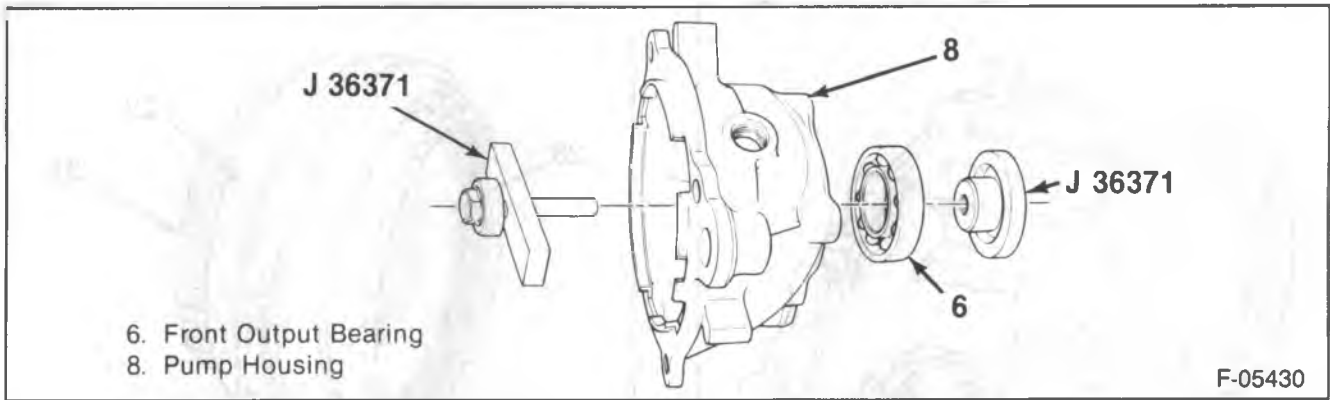

Figure 13—Installing the Pump Housing Bearing
- 5. Bearing (6) to the pump retainer housing (8) using J 36371 (figures 13 and 14).